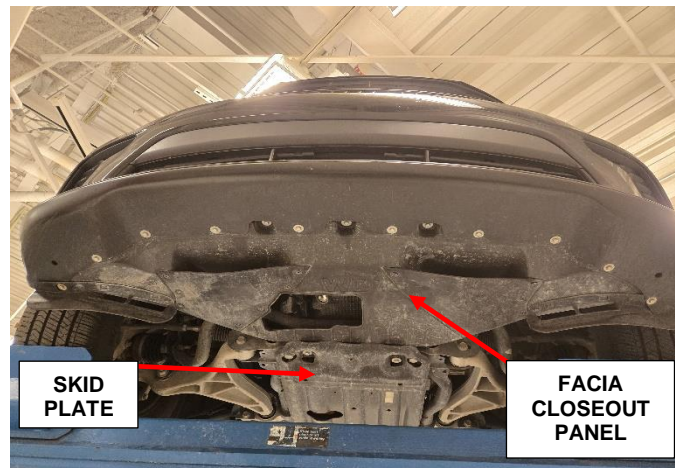

Figure 6 – Under Body
4. Remove the skid plate (Figure 6).
5. Remove the lower fascia closeout panel (Figure 6).